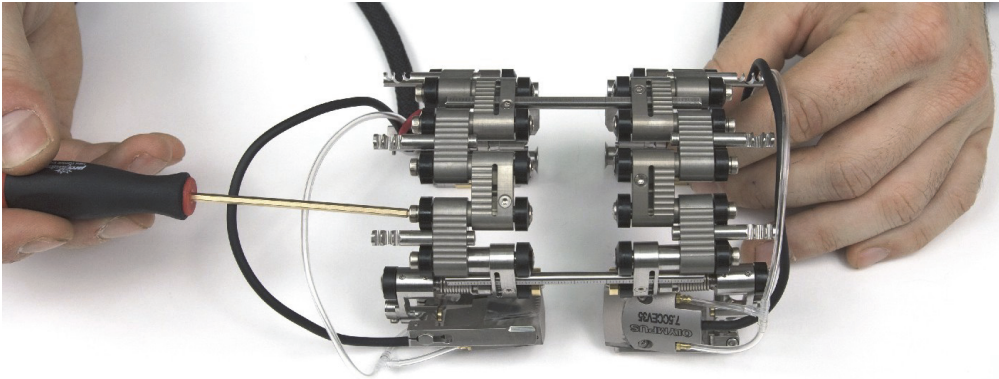

Figure 2-19 Loosening the links
2. Loosen, by one turn, the self-captured pivot screws of the female links and, if applicable, of the half links and medium links (see Figure 2-19 on page 46).